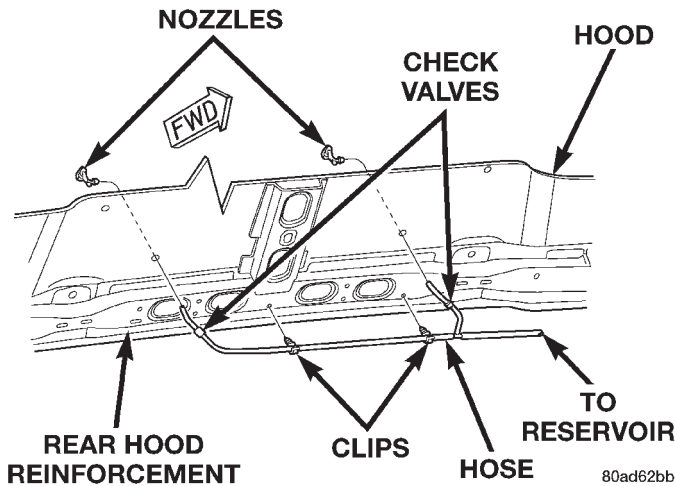

Fig. 18 Front Washer Nozzles Remove/Install
- (1) Open and support the hood.
- (2) From under the rear of the hood, disconnect the washer supply hose from the barbed nipple of the washer nozzle (Fig. 18).